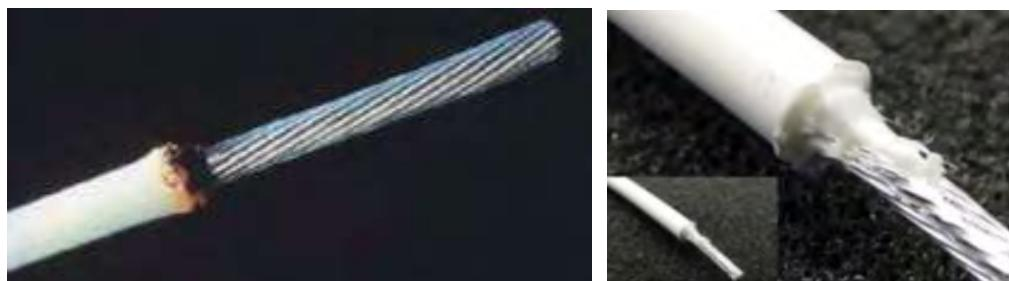

Figure 175
e. If thermal stripper was used, ensure the jacket is not burned or melted into the wire strands as shown in Figure 175.